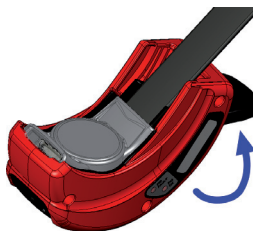

Figure 3
4. Open the Strap Fitting Lever; until you hear a click. **(Figure 3)**